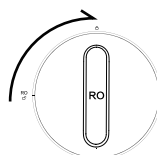

Fig. 3
A. The filter element points to the “L” lock mark alignment (Fig.3).
B. Tighten the filter in the 12:00 direction (Fig.3).